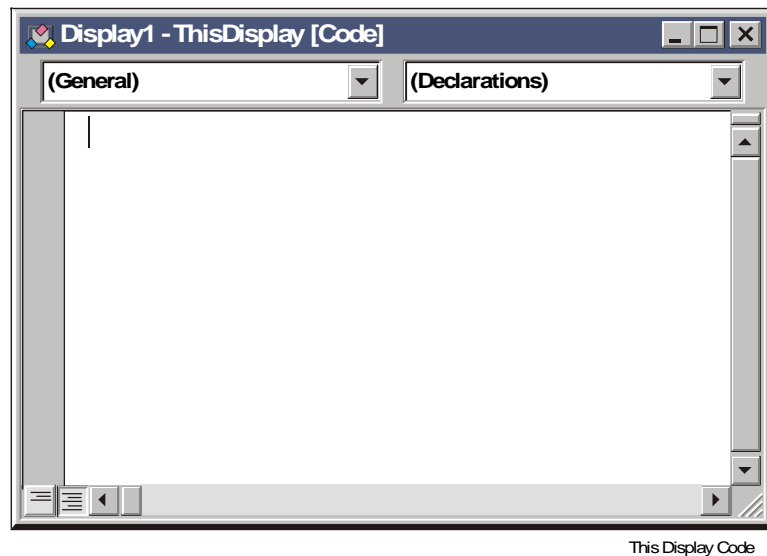

Figure 12-5: *ThisDisplay* Code Window
2. Expand the M-Graphics Objects group and double-click the *ThisDisplay* (*GwxDisplay*) item. A *ThisDisplay* code window appears (Figure 12-5).